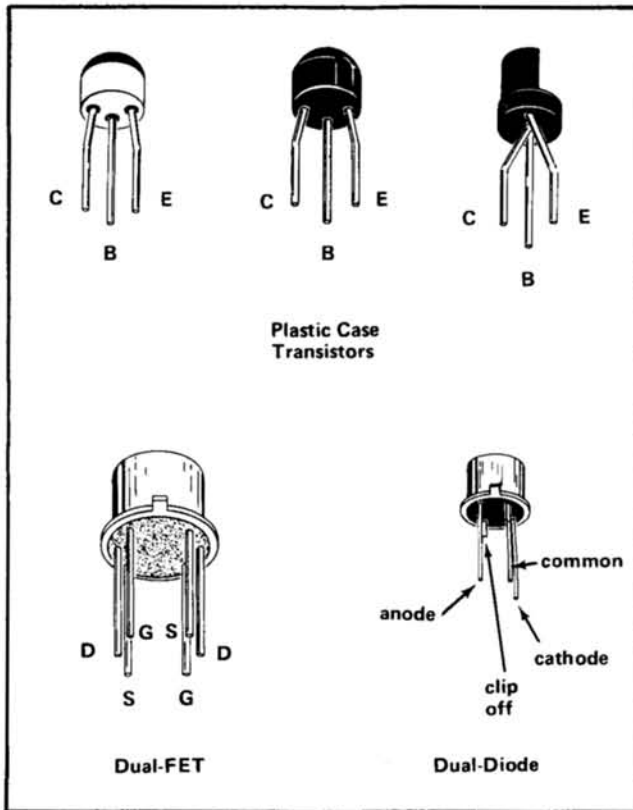

Fig. 4-1. Electrode configuration for semiconductors in the 7A15A/7A15AN.
**Semiconductor Lead Configuration.** Fig. 4-1 shows the lead configurations of the semiconductor devices used in this instrument.
**A. TRANSISTORS.** The best check of transistor operation is actual performance under operating conditions. If a transistor is suspected of being defective, it can best be checked by substituting a component known to be good; however, be sure that circuit conditions are not such that a replacement might also be damaged. If substitute transistors are not available, use a dynamic tester (such as Tektronix Type 576). Static-type testers may be used, but since they do not check operation under simulated operating conditions, some defects may go unnoticed. Fig. 4-1 shows base pin and socket arrangements of semiconductor devices. Be sure the power is off before attempting to remove or replace any transistor.
Replacement semiconductors should be of the original type or a direct replacement. Fig. 4-1 shows the lead configurations of the semiconductors used in this instrument. If the replacement semiconductor is not of the original type, check the manufacturer's basing diagram for proper basing.